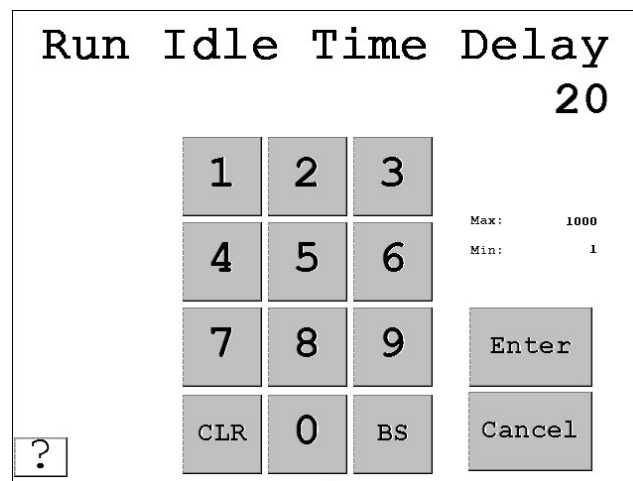

Figure 3-13. Run Idle Time Delay
5. Press *Delay Timer*. The Run Idle Time Delay screen (Figure 3-13) appears with the current delay time displayed at upper right.